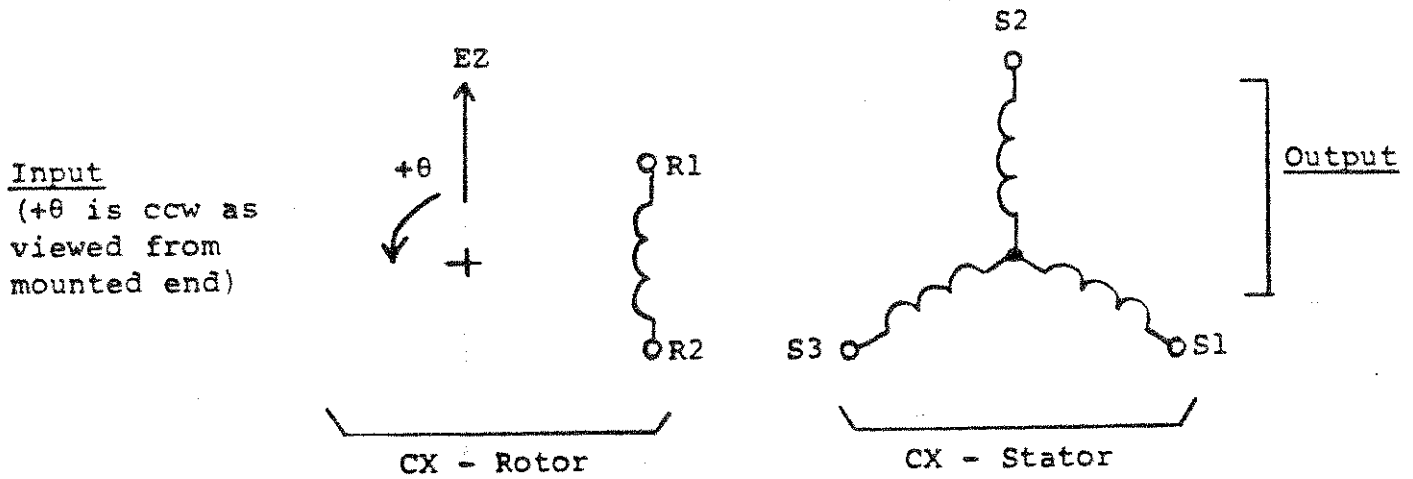
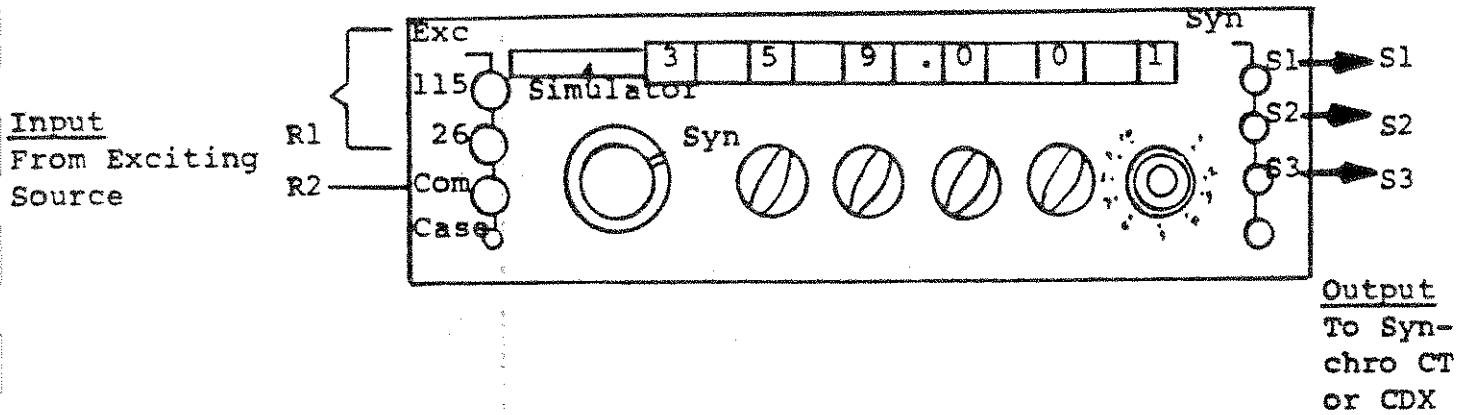

Figure 4-1. Synchro Transmitter (at EZ) - CX
Figure 4-2. Model 530 Simulator - Synchro Mode
The schematic representation for a Synchro Transmitter (CX) is shown in figure 4-1.
The input and output terminals of the Model 530 in the synchro mode correspond to figure 4-1 and are indicated in figure 4-2.